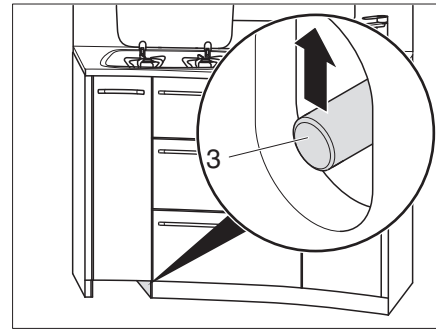

Fig. 124 Unlocking kitchen drawers
- Slide the push rod (Fig. 124,3) upwards.